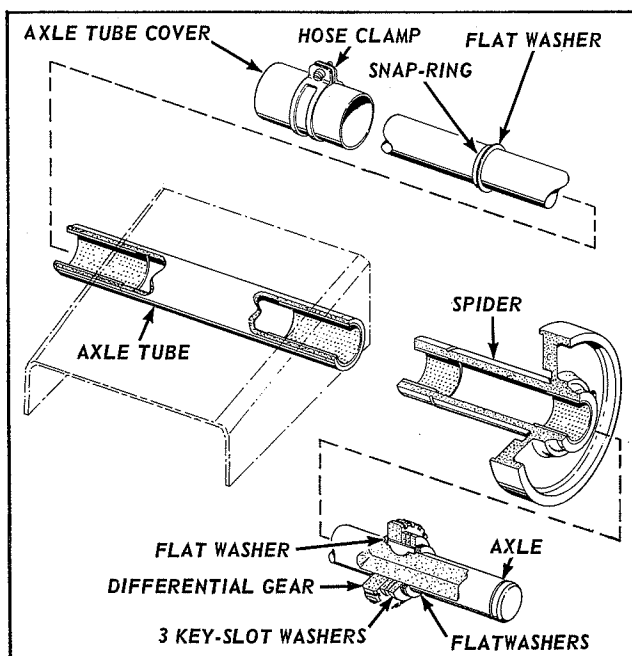

Figure 9
8. Place a flat washer on axle as shown in Figure 9. Assemble the differential gear and 2 keys to the axle and place the 3 key-slot washers next to the gear as shown in Figure 9. Insert the axle into spider and axle tube and secure in place with a flat washer and snap-ring at left end of axle tube as shown. Install 2 or 3 flat washers (as required) next to the key-slot washers. Install the axle tube cover and hose clamp.